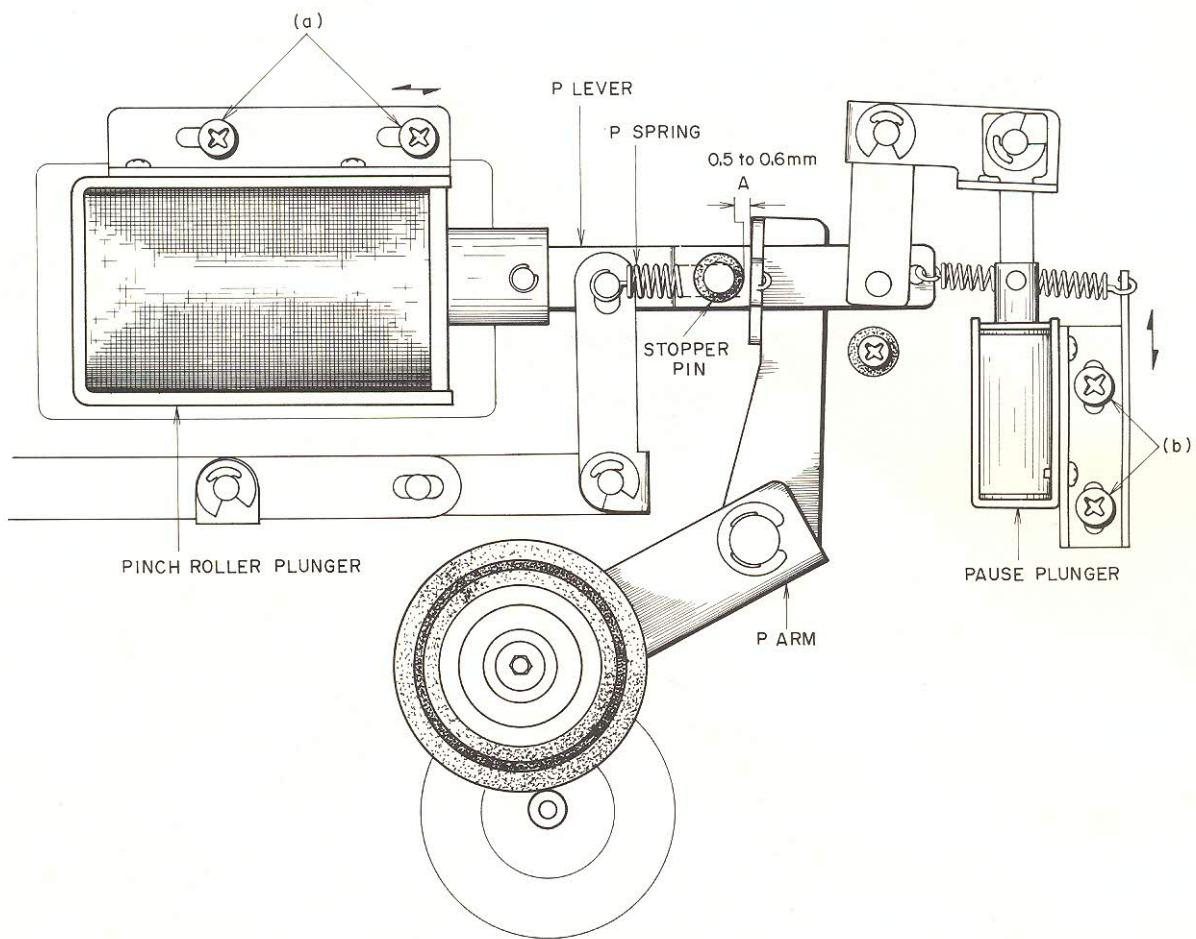

Fig. 18
6. PINCH ROLLER PLUNGER INSTALLATION POSITION AND PINCH ROLLER PRESSURE ADJUSTMENT (Refer to Fig. 18)
7. PAUSE PLUNGER POSITION ADJUSTMENT (Refer to Figs. 18, 19)